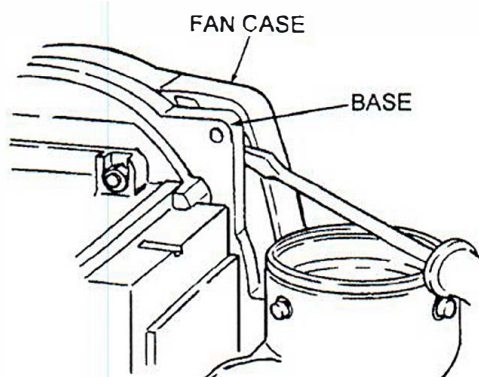

Figure 8. Insert flat bladed screwdriver in opening between fan case and base pan, then pry to break seal.
4. *See Figure 8 and 9.* Using one of the two methods shown, break seal between fan case and base pan and remove fan case.